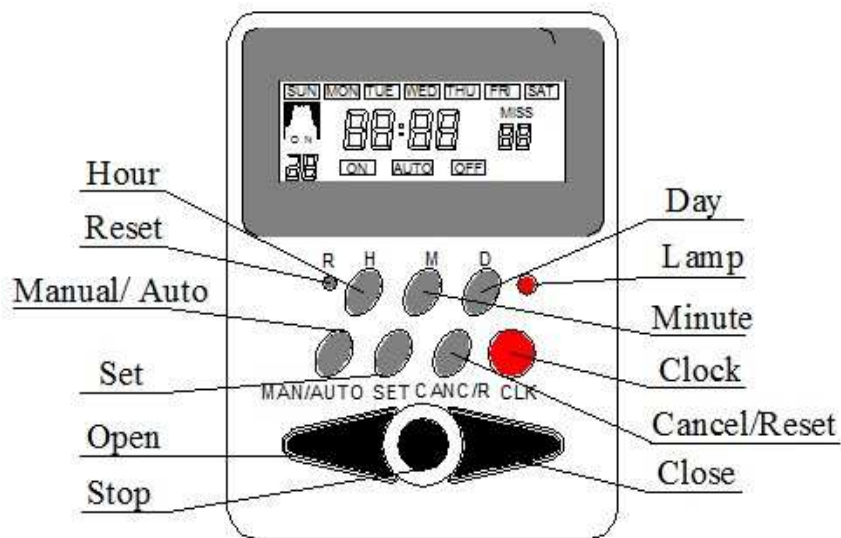
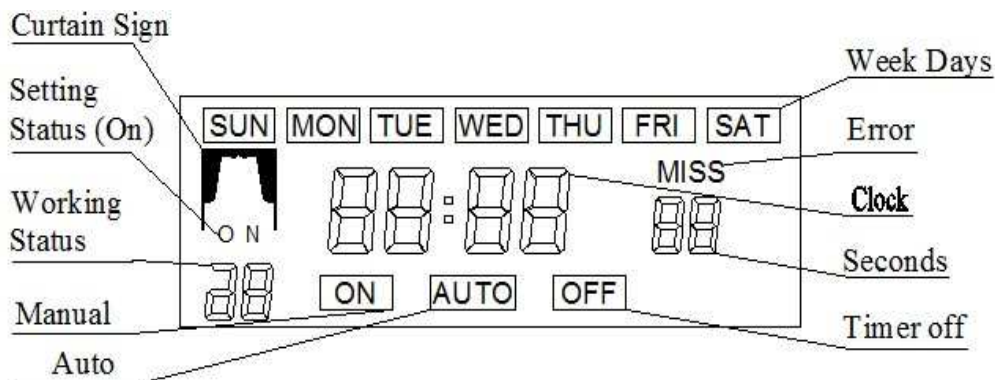

Fig1
Fig2
4. Timer setting (please read fig.1 & fig.2)
HT-200 Fig2